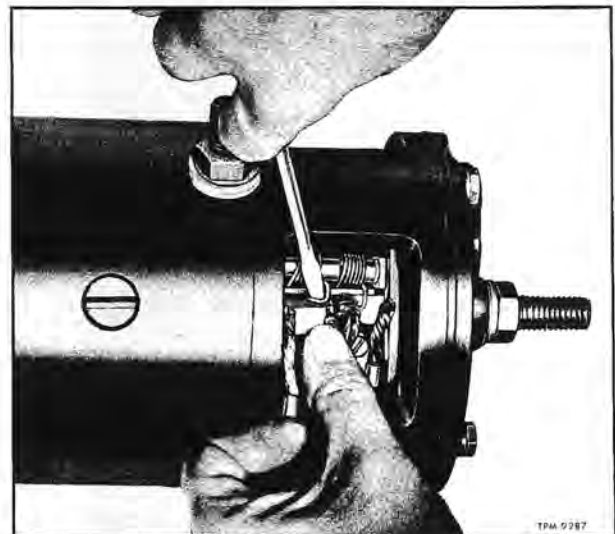

Figure 4—Removing or Installing Brushes
4. Using a screwdriver as shown in figure 4, bend brush holder spring back and remove brush from holder.
1. Using screwdriver to bend brush holder spring as shown in figure 4, and with groove in brush aligned with ridge in holder, insert brushes in holders.